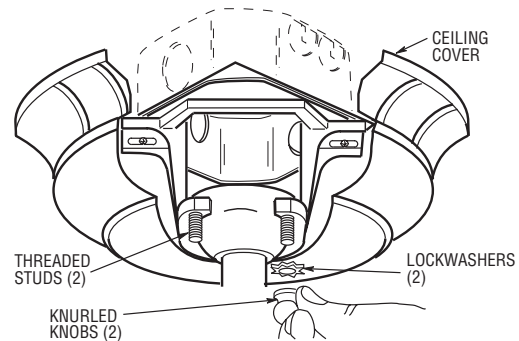

Figure 15
4. Lift the ceiling cover up to the threaded studs and turn until studs protrude through the holes in the ceiling cover (Figure 15).
5. Secure the ceiling cover in place by sliding lockwashers over the threaded studs and installing the two knurled knobs (supplied). (Figure 15). Tighten the knurled knobs securely until the ceiling cover fits snugly against the ceiling and the hole in the ceiling cover is clear of the downrod. Your fan is now wired to be turned on and off from the fan switch.